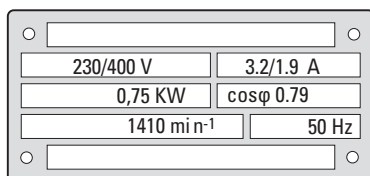
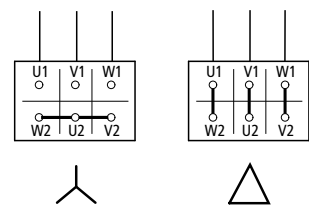

Figure 34: Example of a contactor rating plate of a motor
Figure 35: Circuit types:
**Examples based on figure 34 and figure 35**